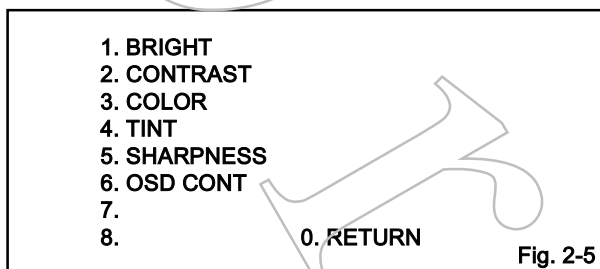
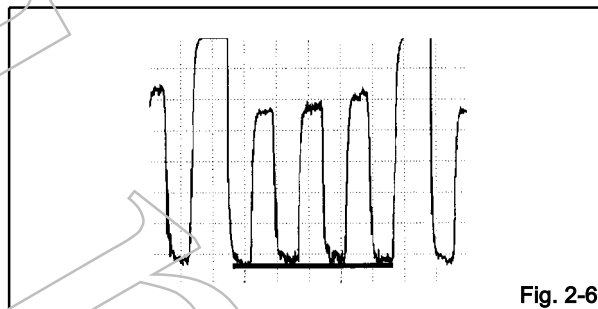

Fig. 2-5
Fig. 2-6
4. Activate the adjustment mode display of Fig. 1-1 and press the channel button (4) on the remote control to select "PICTURE". The Fig. 2-5 appears on the display.
5. Press the channel button (1) on the remote control to select "BRIGHT".
3. Activate the adjustment mode display of Fig. 1-1 and press the channel button (4) on the remote control to select "PICTURE". The Fig. 2-5 appears on the display.
4. Press the channel button (4) on the remote control to select "TINT".
5. Press the VOL. UP/DOWN button on the remote control until the waveform becomes as shown in Fig. 2-6.